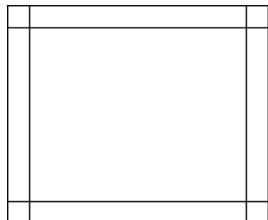

FIGURE 2.21 Four lines have been offset.
6. Click a third line, click inside the box; click the fourth line, and then click again inside the box (see Figure 2.21).